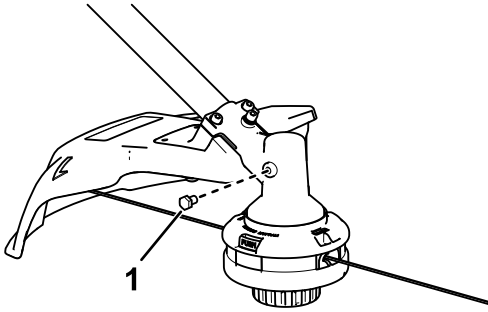

Figure 15
3. Remove the plug from the side of the trimmer (Figure 15).